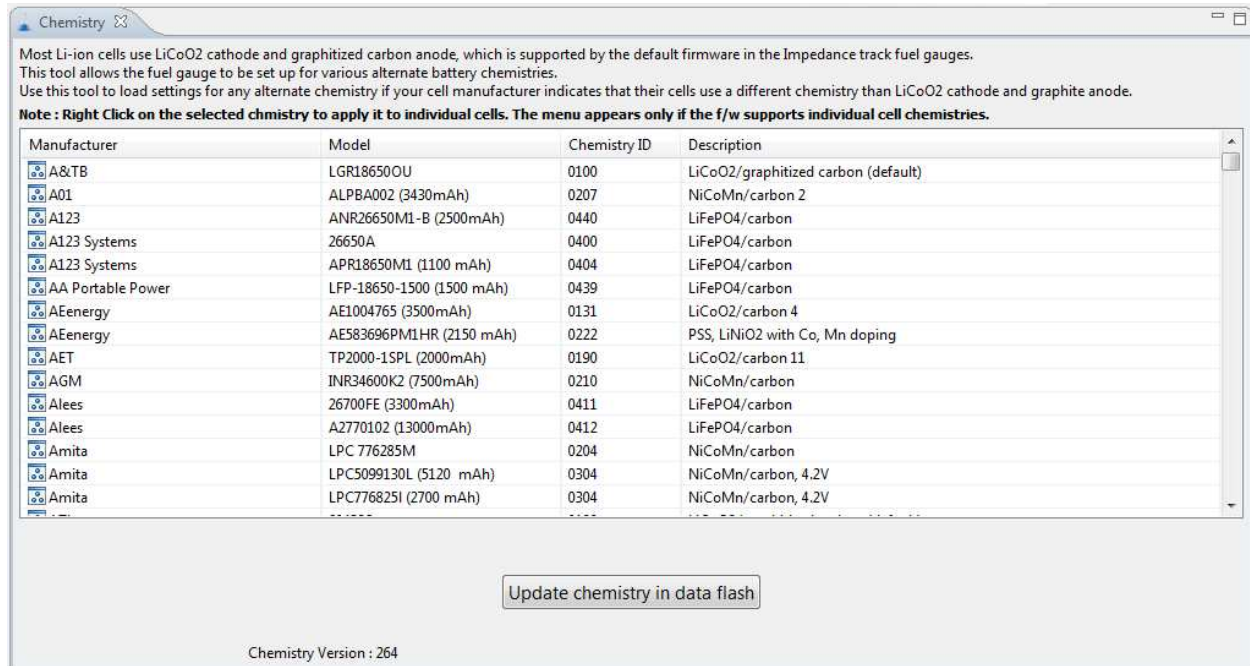

Figure 6. Chemistry Screen
- Select the ChemID that matches your cell from the table (see Figure 6).